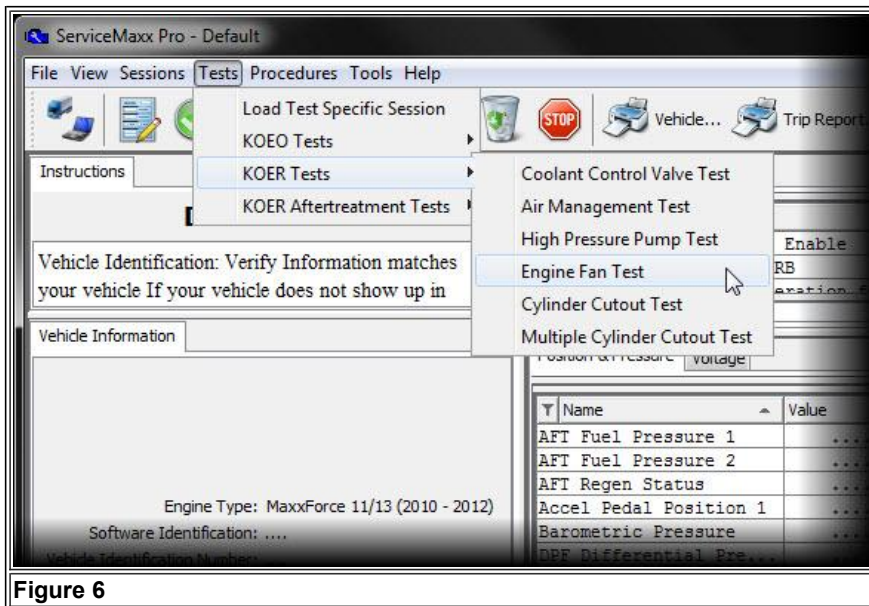

Figure 6
3. Connect with ServiceMaxx and perform "Engine Fan Test" (Figure 6).